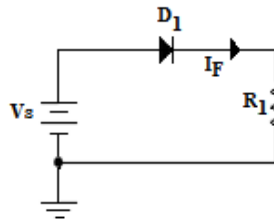

Figure 6.1
1. For, Figure 6.1 assume  $V_s = 10V$ ,  $R_1 = 100 \Omega$ ,  $D_1 = 1N4001$ . Calculate the diode forward current  $I_F$ . Show all computer simulation.
1. Construct the circuit of Figure 6.1, measure the current value  $I_F$ .